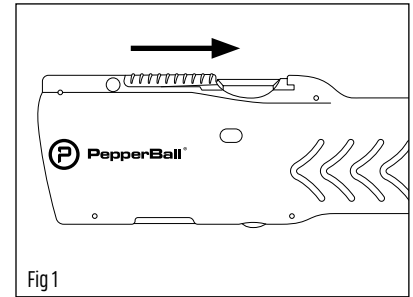

Fig 1
**1. PLACE THE LIFELITE™ IN SAFE MODE** - Slide the safety towards the rear of the launcher until it is fully covering the trigger. (Fig 1)